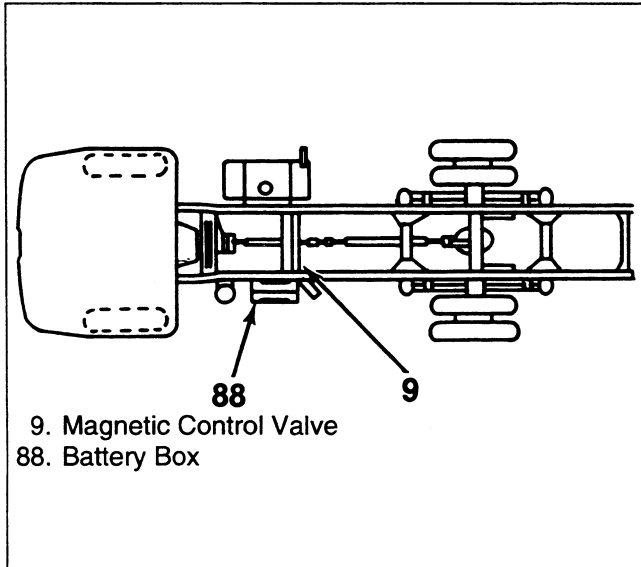

Figure 16. Exhaust Brake Control Valve Location
- The magnetic control valve (9) is located inside the left frame rail, rear of the battery box (88) (figure 16).